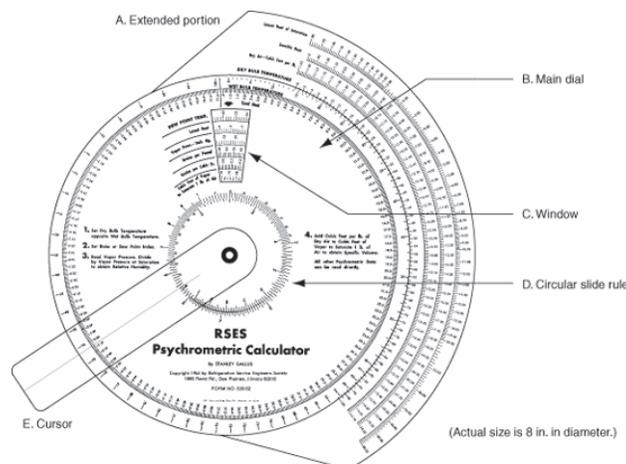

FIGURE 1. Psychrometric calculator
Look at the RSES psychrometric calculator included with your SAM. The various parts of the calculator are shown in Figure 1. The extended portion (A) has four scales printed on it. The first (innermost) scale shows the dry-bulb temperature, given in increments of 1°F. The second scale shows the specific volume of dry air, given in cubic feet per pound (ft³/lb). This is completely dry air, with absolutely no moisture or water vapor present. The scale is marked in increments of 1/100 (0.01) ft³/lb.